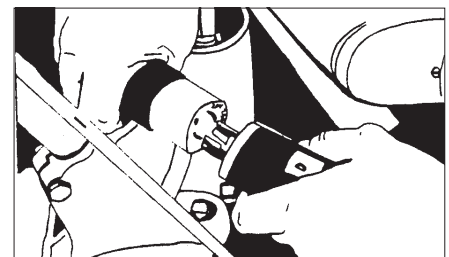
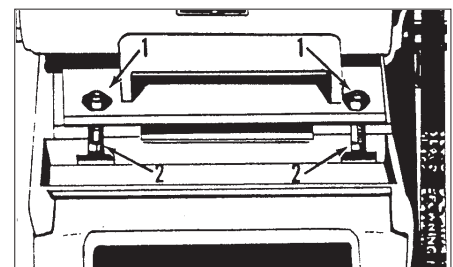

Figure 1
Figure 2
2. Disconnect the handle plug connection. See figure 1.
6. Using the 9/16" wrench, remove the two hex nuts (1).
7. Lower the motor locating screws (2). To lower the motor locating screws, turn the screws clockwise. Make sure the screws are aligned with the openings at the front of the motor platform. See figure 2.